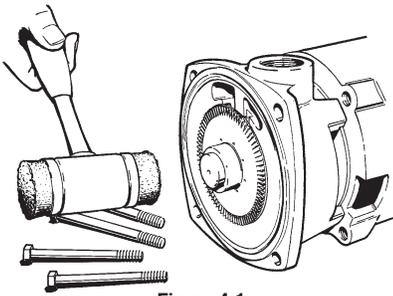

Figure 4-1
2. Remove the four (4) 3/8” X 4” bolts (#19) from the cover (#2).
4. Remove the impeller (#11), refer to Figure 4-1. The impeller is a slip fit and, under normal conditions, can be removed by gently tapping on the end of the shaft sleeve with a mallet. Leave the impeller key (#23) in place. Striking the sleeve too hard could damage the seat or rotating element.